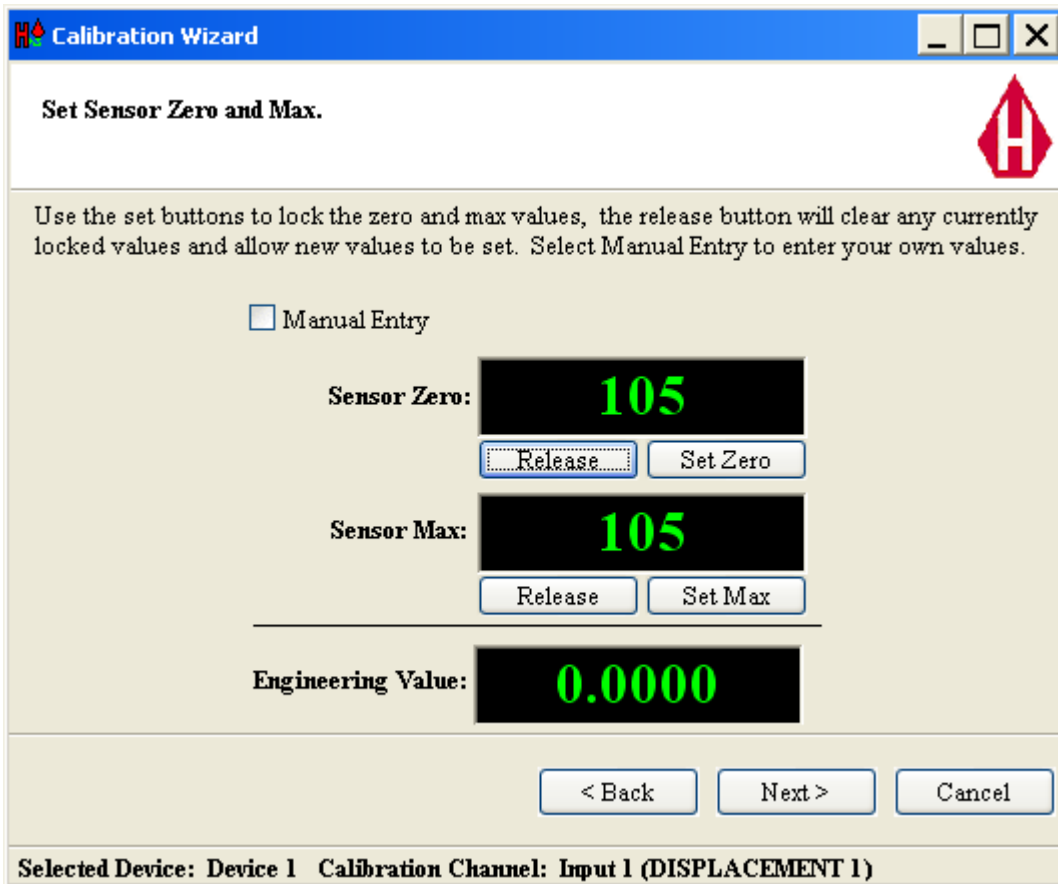

Figure 7: Calibration Zero and Max.
Step 7 (Optional): You will notice the Manual Entry selection in Figure 7. Clicking this will allow you to key in the zero value and the max value. This is useful for calibrating digital instruments.